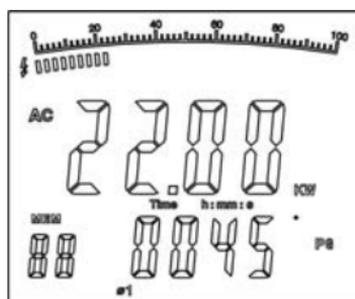

Figure 7
1. Press **SEL** to choose first phase $\text{Ø}1$, see figure 7. The double displays show the active power kW value and the PG value of the second phase 1.